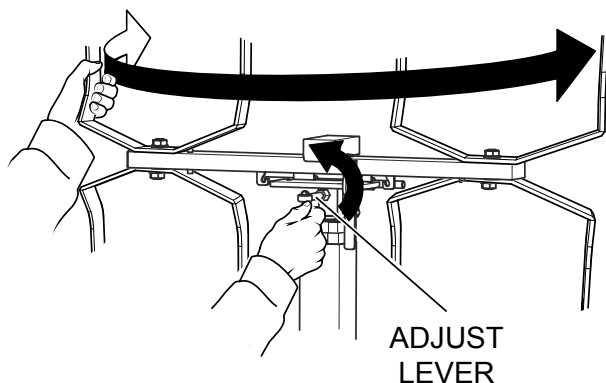

Figure 9. Adjusting Direction of Lighting Units
1. Loosen the adjust lever. Turn the lighting units in the desired direction (Figure 9).